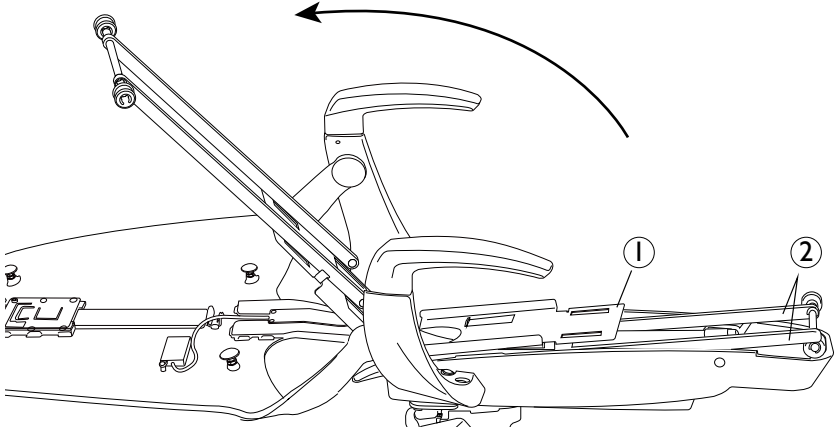

Figure 4. Moving the seat plate and bars
- 4 Move the metal plate (see Figure 4, item 1) and bars (item 2) out of the way as shown.